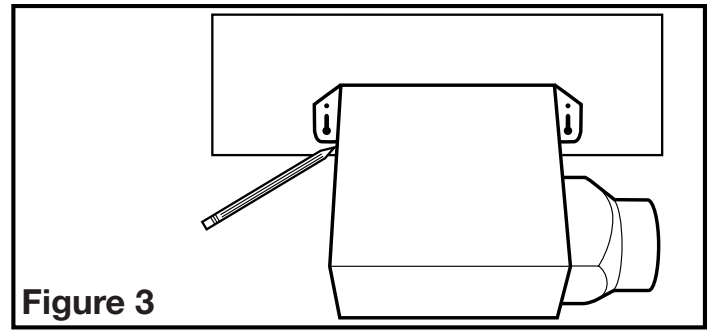

Figure 3
- 1b. **Existing Constructions:** Position housing against the joist or stud and trace an outline of the housing onto the ceiling/wall material (**Figure 3**). Set housing aside and cut opening, being careful not to cut or damage any electrical or other hidden utilities. Place housing next to the joist or stud and insure that it is flush with the finished ceiling. Secure with four nails (not provided) to ensure proper installation (**Figure 2**).